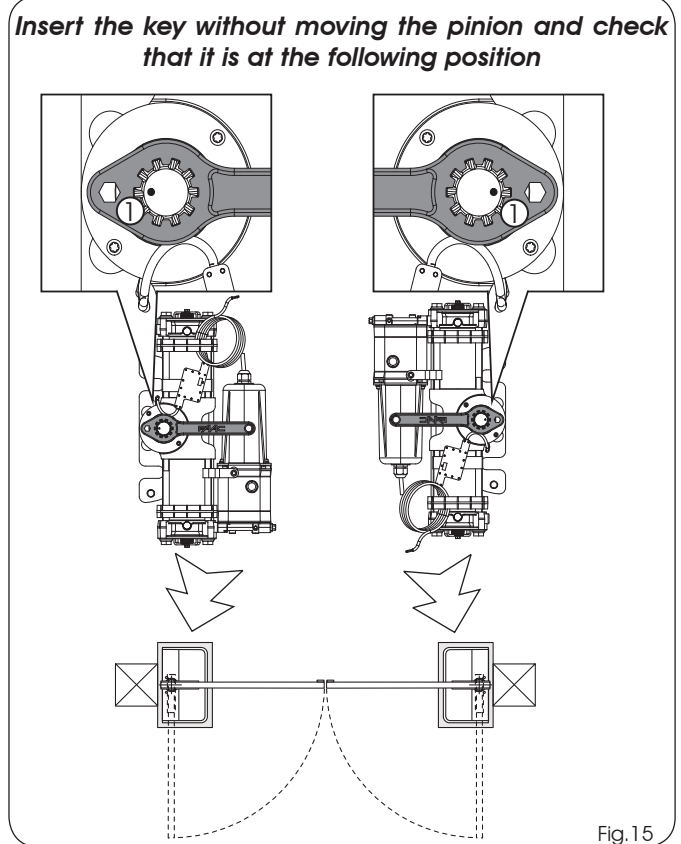

Fig.15
- 6) Without moving the pinion insert the supplied key on the operator (Check the position of the pin on the pinion Fig.15 ref.①), and if needed turn the pinion to correct it (Important to correctly couple the pinion-splined bush during installation).